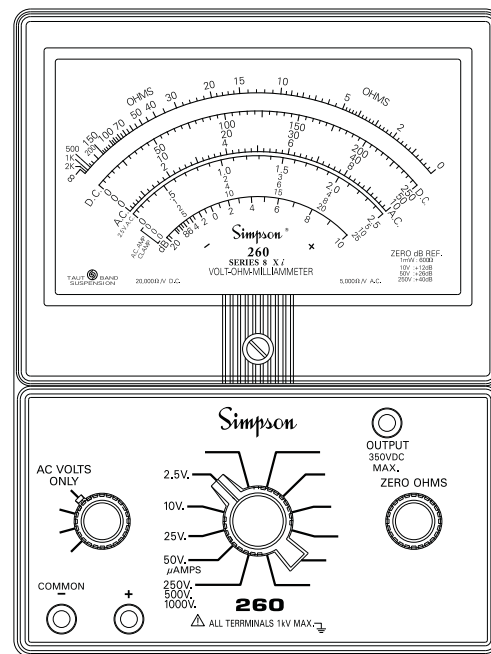

Figure 4-9. Jacks and Switch Positions for Output Measurements
- Set the function switch at AC Volts Only position (Figure 4-9).